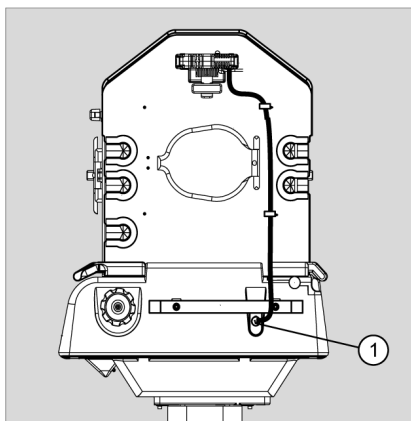

Fig. 55 Side view of Isolette®: sensor module connector
- 4 Disconnect the sensor module cable (Fig. 55/1) from the upper shell assembly.